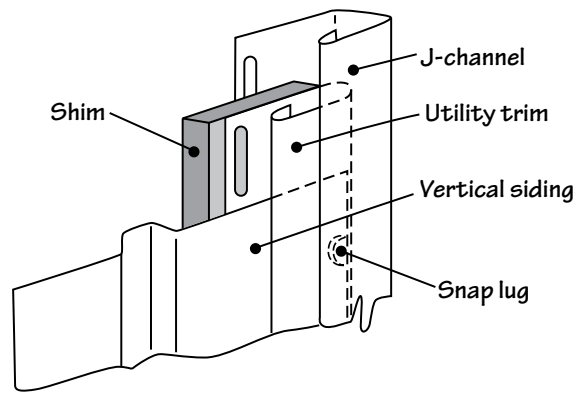

Figure 59.
- Install successive panels by securing from the topmost full nail slot downward, as described above, then 12" (305mm) on center for the rest of the panel. Around windows, doors, and fixtures, allow 1/4" (6.4mm) clearance in receiving channels (increase to 3/8" [9.5mm] if installing below 40° F [4.4° C]). When the panels are cut in the "V" groove or on the flat surface of the panel to accommodate an opening, install utility trim to properly secure panels, as described above (Fig. 59). Check the plumb of the installation every few panels to maintain the best appearance.
- The final siding panel should be the same width as the starting course. Depending on where the cut occurs, it may be necessary to install utility trim inside the receiving pocket of the J-channel or corner post that receives the vertical siding (Fig. 59). It may also be necessary to shim the utility trim outward to a level equal that of the siding panel face, in order to keep a level appearance.